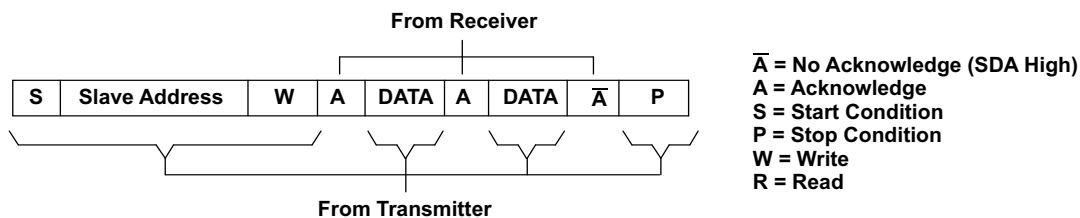
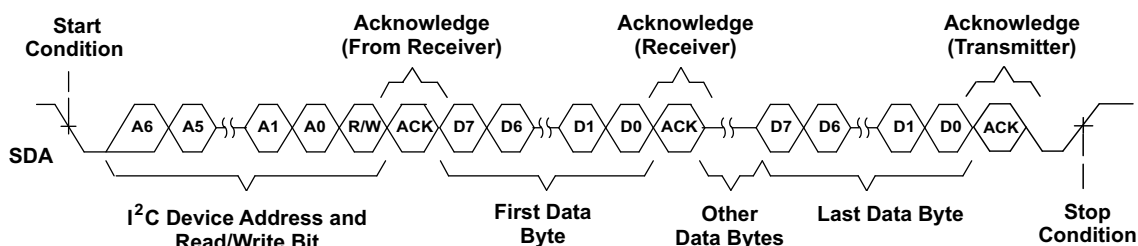
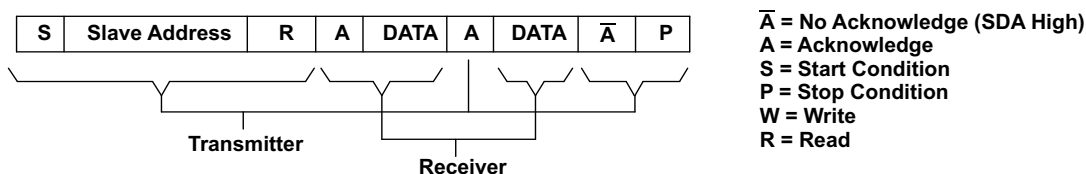
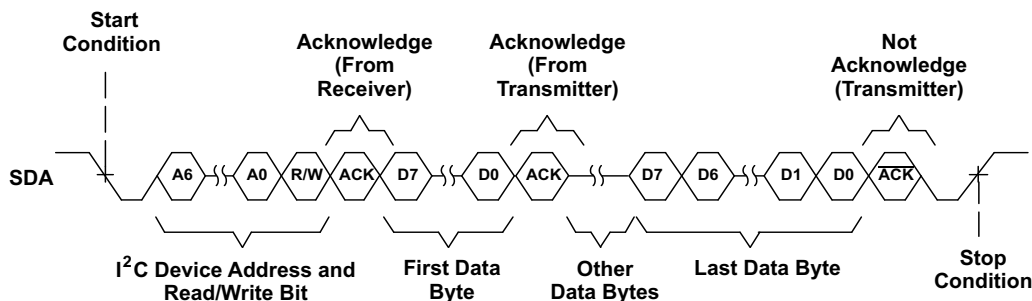

Figure 62. I²C Write Cycle
Figure 63. Multiple Byte Write Transfer
Figure 64. I²C Read Cycle
Figure 65. Multiple Byte Read Transfer
During a write cycle, the transmitting device must not drive the SDA signal line during the acknowledge cycle, so that the receiving device may drive the SDA signal low. After each byte transfer following the address byte, the receiving device pulls the SDA line low for one SCL clock cycle. A stop condition is initiated by the transmitting device after the last byte is transferred. An example of a write cycle can be found in Figure 62 and Figure 63. Note that the THS7313 does not allow multiple write transfers to occur. See example section – Writing to the THS7313 for more information.
acknowledges data bytes sent by the slave. When the master has received all of the requested data bytes from the slave, the not acknowledge ($\bar{A}$) condition is initiated by the master by keeping the SDA signal high just before it asserts the stop (P) condition. This sequence terminates a read cycle as shown in Figure 64 and Figure 65. Note that the THS7313 does not allow multiple read transfers to occur. See example section – Reading from the THS7313 for more information.
The THS7313 operates using only a single byte transfer protocol similar to Figure 62 and Figure 64. The internal subaddress registers and the functionality of each are found in Table 2. When writing to the device, it is required to send one byte of data to the corresponding internal subaddress. If control of all three channels is desired, then the master has to cycle through all the subaddresses (channels) one at a time, see the example section –*Writing to the THS7313* for the proper procedure of writing to the THS7313.